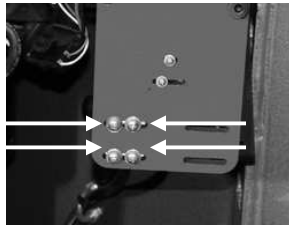

Figure 5
5. Remove the 4 screws and washers from the front of the down stop bracket. Remove the down stop solenoid. There will be a spring and washer over the plunger that is connected to the down stop. Note the orientation of these parts and be sure to re-use them during installation of the new solenoid. See Figure 5.